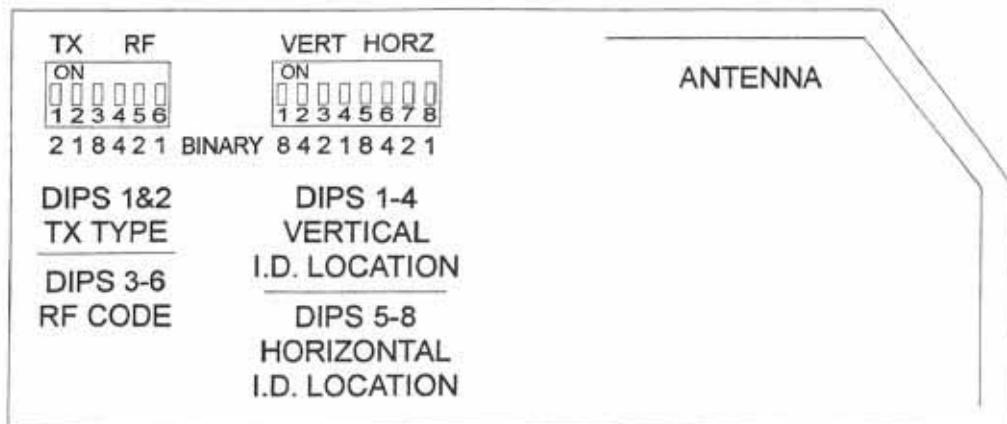

FIGURE 1
The model 120A transmitter board contains two dip switches for coding the detector to the desired addressable control panel LED location. To access the transmitter board slide a flat blade screwdriver in the slot on the detector cap and gently push the handle down to pry the cap off.(fig. 5) The outer cover of the detector can now be removed by placing two thumbs in the center of the now exposed black chamber and fingers around the bottom edge of the outer cover (see fig. 2). Pull up with fingers while pushing down with thumbs and remove the cover to expose the transmitter. Refer to fig. 1 and set the dip switches to the desired LED location. Reassemble the detector and test as described in item 4 of **Installing the Detector**.